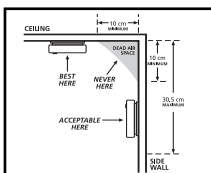

FIGURE 1
- When mounting an alarm on the ceiling, locate it at a minimum of 10 cm from the side wall (see figure 1).
- When mounting the alarm on the wall, use an inside wall with the top edge of the alarm at a minimum of 10 cm and a maximum of 30.5 cm below the ceiling (see figure 1).
- In homes that are not well insulated, extreme heat or cold can be transferred from the outside to the inside through poorly insulated walls and roof. This may create a thermal barrier which can prevent the smoke from reaching an alarm mounted on the ceiling. If you are not sure about the insulation in your home, or if you notice that the outer walls and ceiling are either hot or cold, install the alarm on an inside wall. In such homes, install the smoke alarm with the top edge of the alarm at a minimum 10 cm and a maximum of 30.5 cm below the ceiling (see figure 1).
Modern mobile homes have been designed and built to be energy efficient. Install smoke alarms as recommended above (refer to RECOMMENDED LOCATIONS and Figures 1 and 2). In older mobile homes that are not well insulated compared to present standards, extreme heat or cold can be transferred from the outside to the inside through poorly insulated walls and roof. This may create a thermal barrier which can prevent the smoke from reaching an alarm mounted on the ceiling. In such units, install the smoke alarm on an inside wall with the top edge of the alarm at a minimum of 10cm and a maximum of 30.5cm below the ceiling (see figure 1).